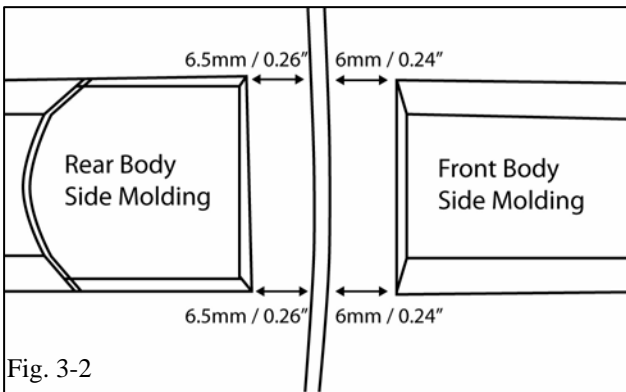

Fig. 3-2
- ⚠ (c) The opening between the doors should look like (Fig. 3-2.) Tolerance for flushness in the vertical direction of the front and rear molding in relation to each other is 0.0mm +/-1.0mm.
- ⚠ (d) Place the rear edge of the front molding **6mm** from the rear edge of the front door (Fig 3-2). Ensure that the 6mm minimum distance is carefully measured.
- ⚠ (j) Place the front edge of the rear molding **6.5mm** from the front edge of the rear door (Fig 3-2). Ensure that a minimum 6.5mm distance is maintained.